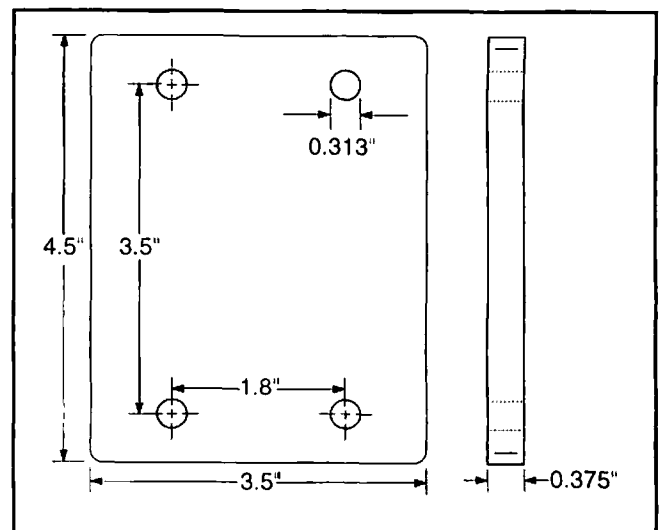

Figure 6. Stand-off dimensions.
The top gib is mounted to a slide and moves along the narrow dovetail. The slide maintains the motion of the cross slide to produce the taper while cutting. If the gib is too loose, the angle can be affected and the finish will suffer. If the gib is too tight, the slide will not move freely. Begin by removing the cap screw that holds the support rod to the bottom of the slide. Adjust the angle of the narrow dovetail to zero. There are two gib screws that are used for making adjustments to the gib. See Figure 6. To tighten the gib, loosen the gib screw on the right (as viewed from the back of the lathe) and tighten the left gib screw. To loosen the gib, loosen the left gib screw and tighten the right. The gib is properly adjusted when the slide can be moved by hand with moderate force. Do not attach the support rod at this time.
16. The light and coolant nozzle bracket should be re-attached or safely secured outside of the lathe. The electrical cord and coolant hose will interfere with the slide. Making and using a stand-off will allow the lamp and coolant nozzle to be mounted without interference. **See Figure 6** for the stand-off dimensions. The stand-off bottom holes will line up with the holes in the lathe. Use the original bolts to secure it. Use 1/4" nuts and bolts in the top holes to secure the support bracket for the lamp and coolant nozzle. Wire ties should be used to secure the hose and cable to the bottom of the support bracket to help ensure they will not interfere with the slide.